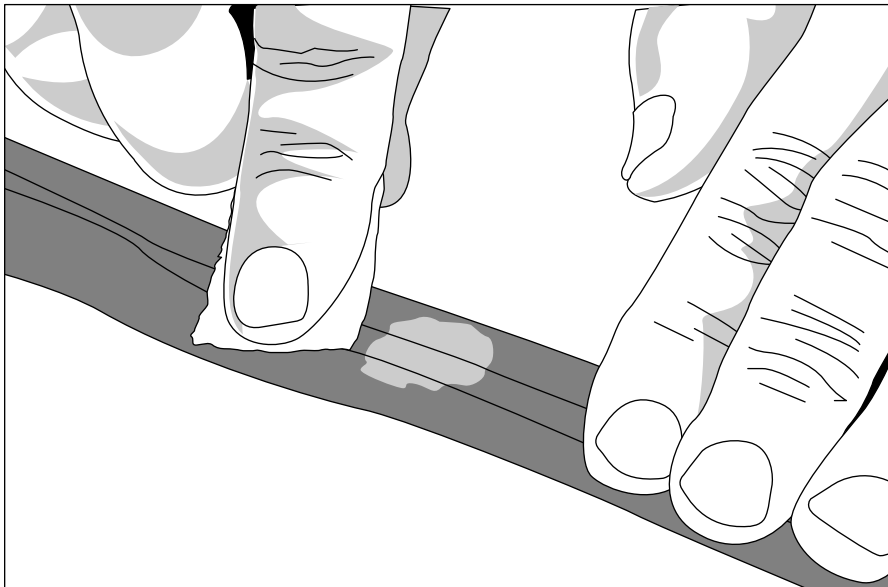

Figure 6-3:
2. Using the abrasive paper or metal scraper included in your puncture repair kit, rough up the area around the puncture (as shown in Figure 6-3).